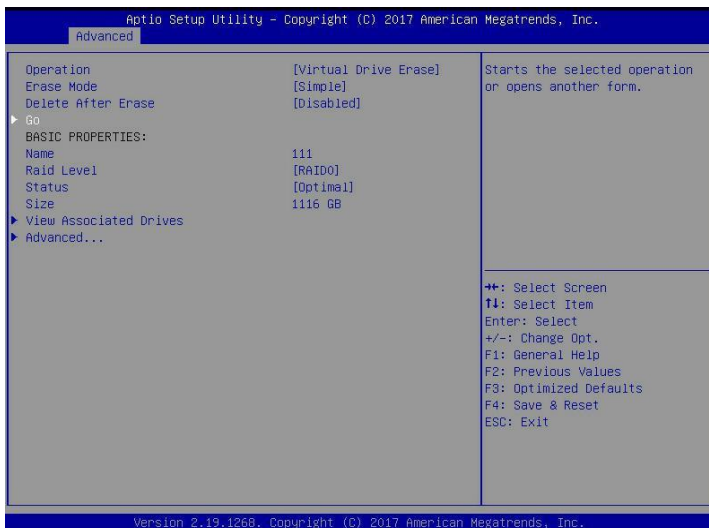

Figure 6-88
e) Enter the interface shown in Figure 6-88, select Go, and press Enter.
❖ Figure 6-88 Select Go